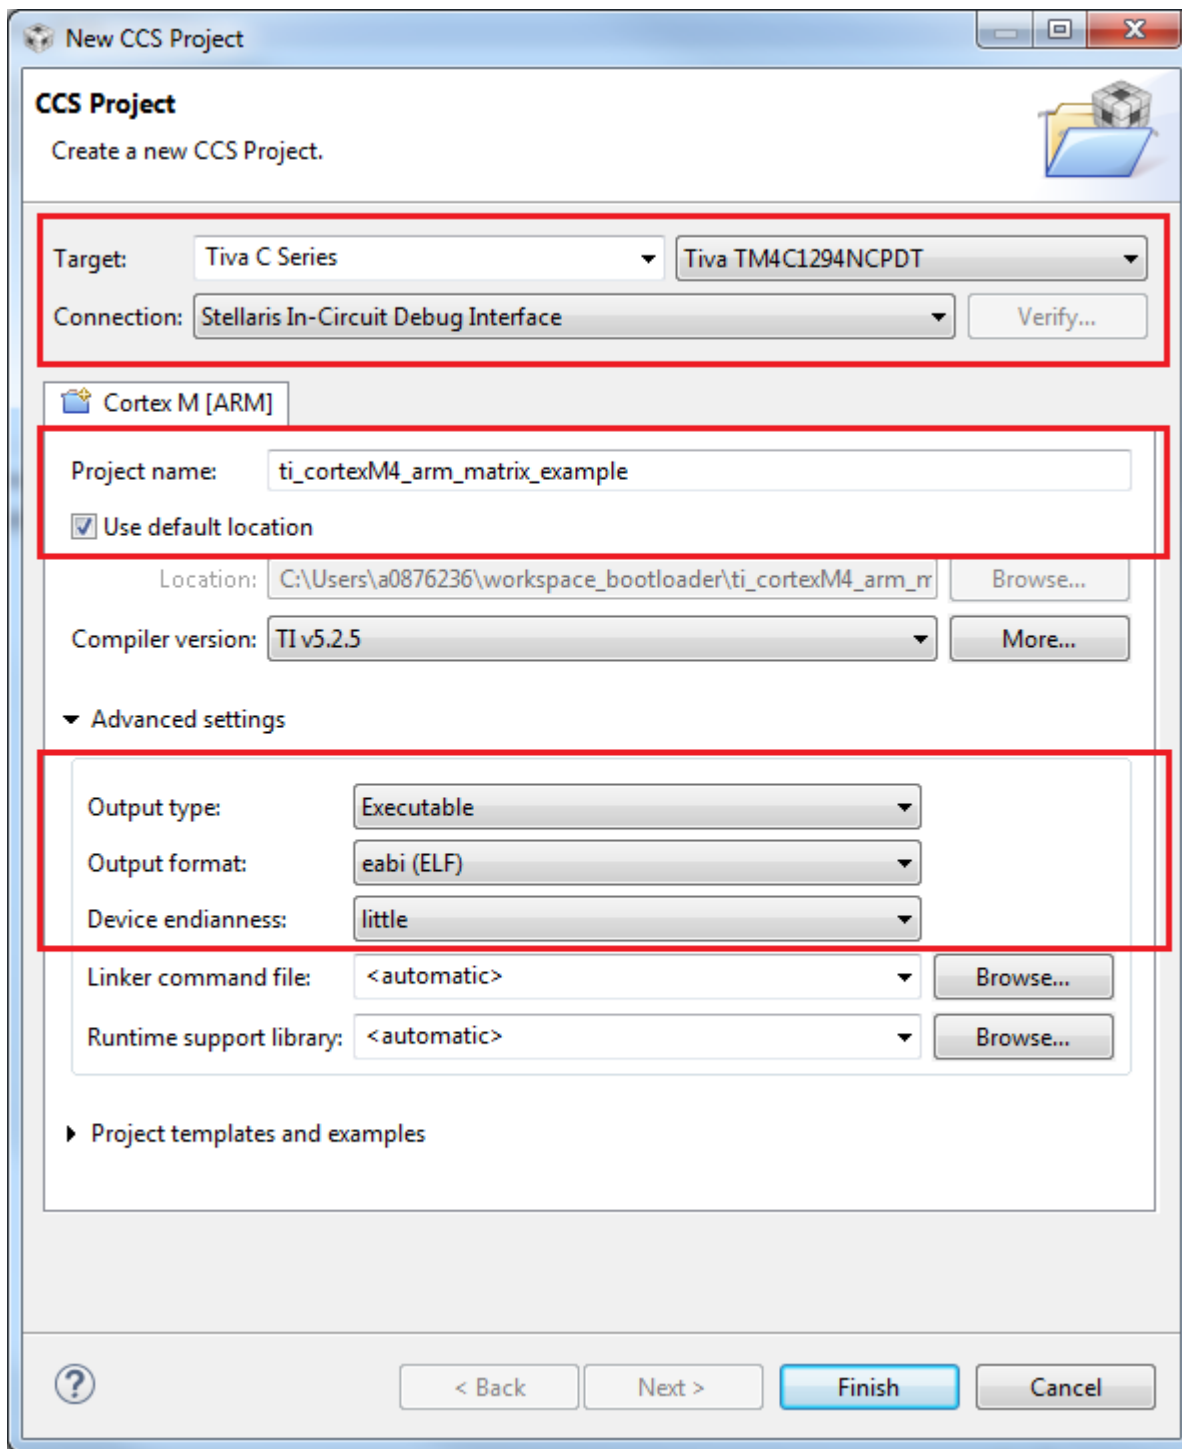
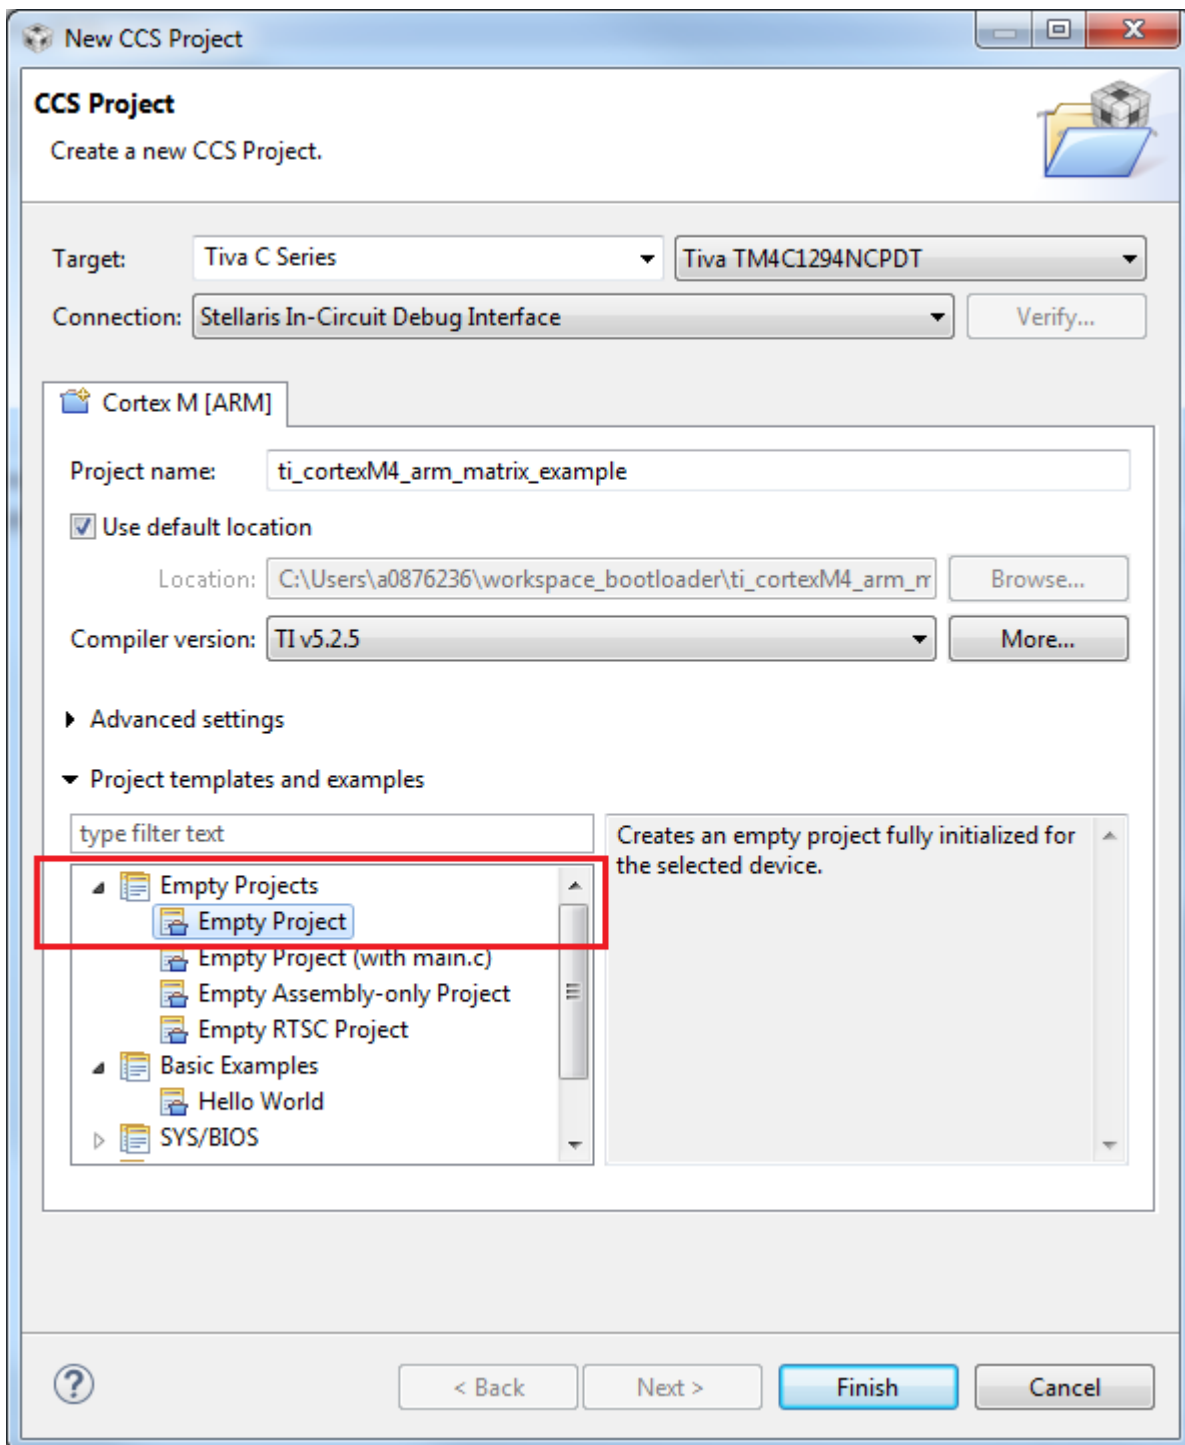

Figure 12. The New CCS Project Window With Options Set to Build the arm_dotproduct_example Project
Figure 13. The New CCS Project Window With Options Set to Build the arm_dotproduct_example Project
7. Click **Finish** to create the project (see Figure 12 and Figure 13). The project now appears in the Project Explorer.